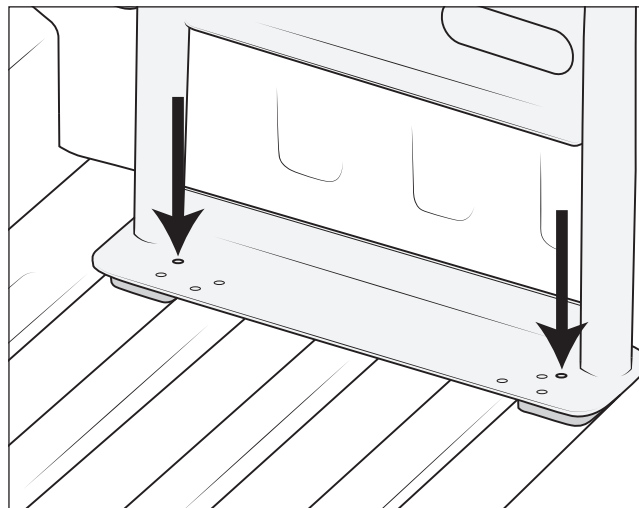

Figure 11
7. Mark two hole locations on the bed floor (fig. 11)